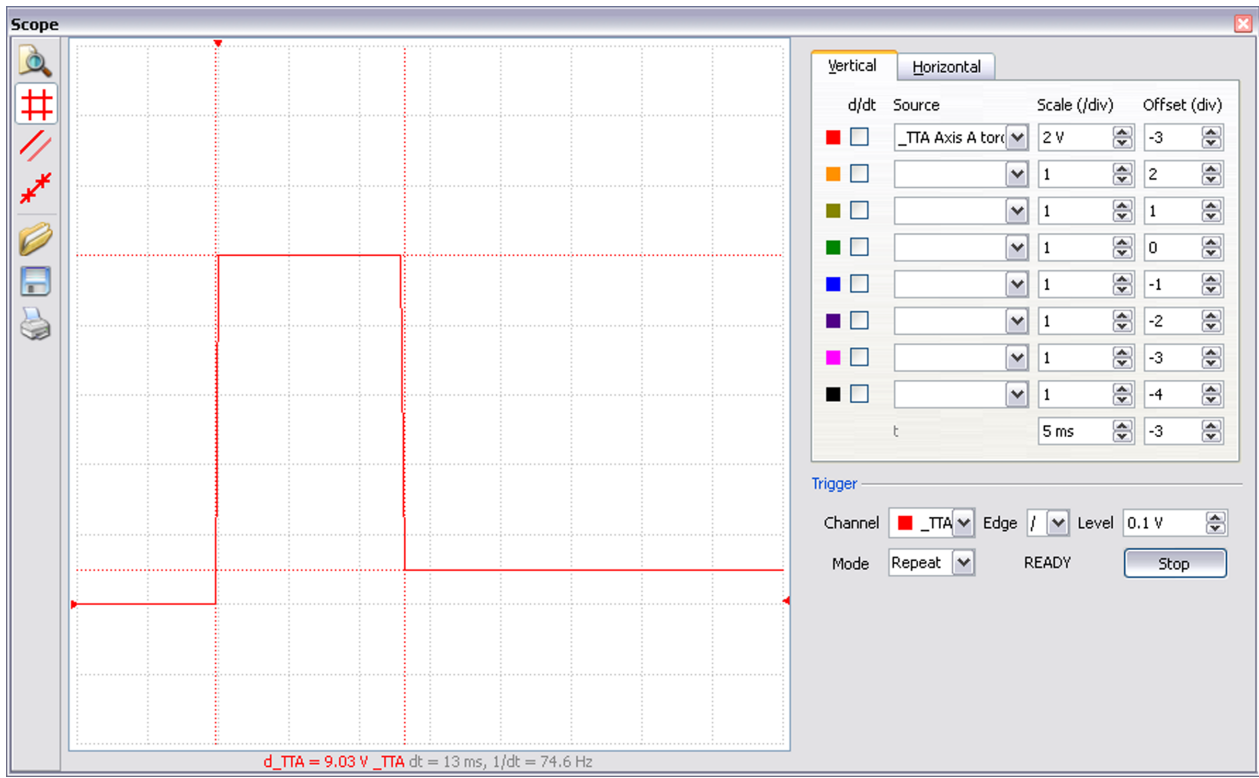

Figure A3.2: Peak Current Operation
Select the amplifier gain that is appropriate for the motor. The gain settings for the amplifier are identical for the brush and brushless operation. The amplifier gain command (AG) can be set to 0, 1, or 2 corresponding to 0.5, 1.0, and 2.0 A/V. In addition to the gain, peak and continuous torque limits can be set through TK and TL respectively. The TK and TL values are entered in volts on an axis by axis basis. The peak limit will set the maximum voltage that will be output from the controller to the amplifier. The continuous current will set what the maximum average current is over a one second interval. Figure A3.2 is indicative of the operation of the continuous and peak operation. In this figure, the continuous limit was configured for 2 volts, and the peak limit was configured for 10 volts.